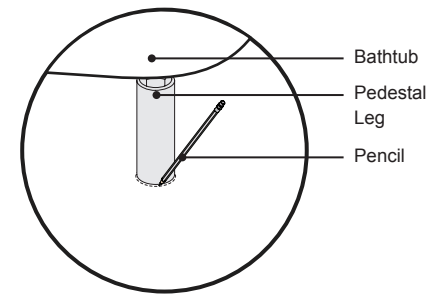

Figure 28. Pedestal Leg Attachment
- Remove the pedestal base. Place the bathtub back in the determined location. Make sure the overflow opening on the bathtub is centered on the drain (Figure 28).
- Using a pencil, lightly outline the pedestal leg. Repeat this step for the remaining three (3) pedestal legs.